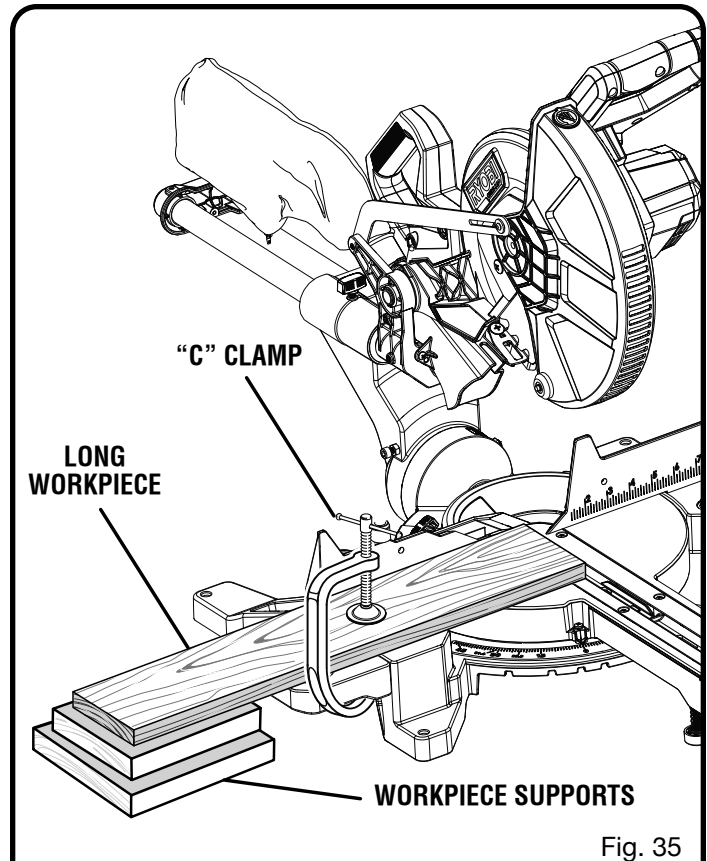

Fig. 35
- When cutting long pieces of lumber or molding, support the opposite end of the stock with a roller stand or with a work surface level with the saw table. See Figure 35.
See Figure 35.